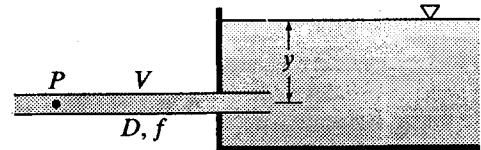

Figure X8.27.3
8.27.3 A horizontal 4-in-diameter pipe ($f = 0.028$) projects into a body of water 2.5 ft below the surface (Fig. X8.27.3). Considering all losses, find the pressure at a point 15 ft from the end of the pipe if the velocity is 12 fps and the flow is (a) into the body of water; (b) out of the body of water.